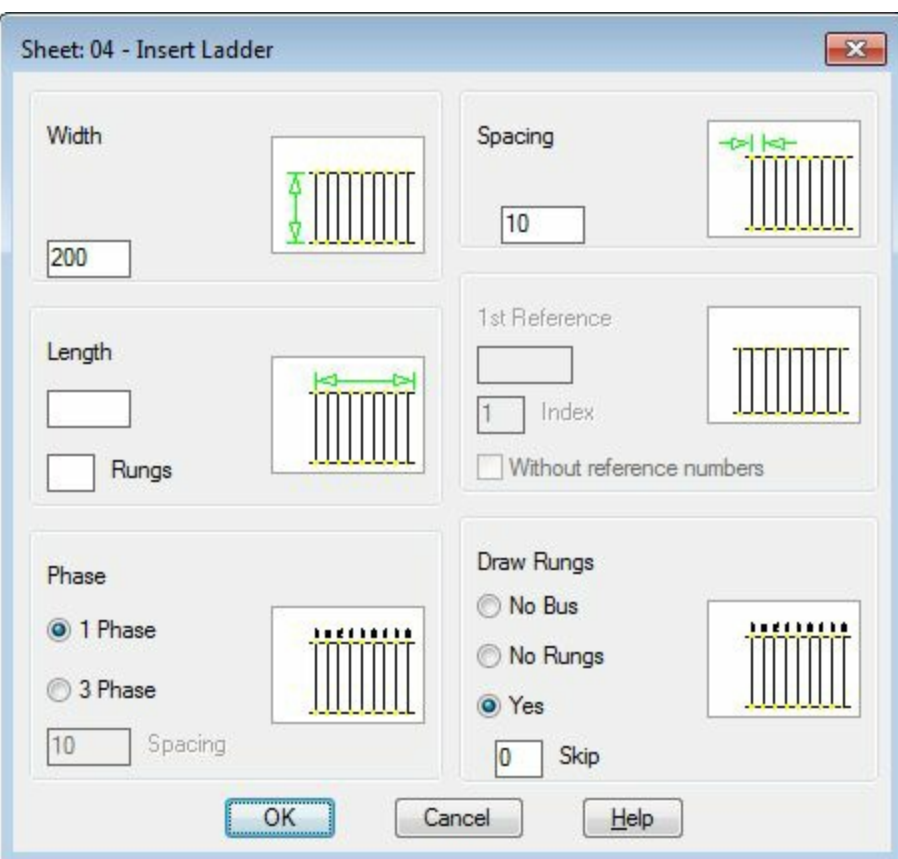

Figure-27. Insert Ladder dialog box
- Click on the **Insert Ladder** tool from the **Insert Ladders** drop-down in the **Insert Wires/Wire Numbers** panel. The **Insert Ladder** dialog box will be displayed; refer to Figure-27.